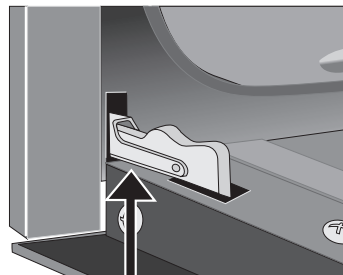
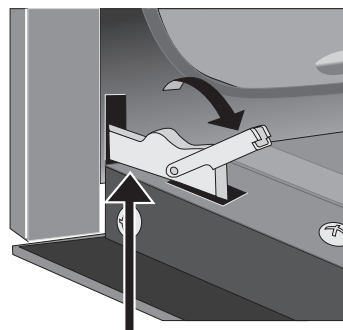

Figure 38: Door hinge locks
Figure 39: Hinge: unlocked position
2. Pull up the lock located on each hinge support toward front of the oven. You may have to apply a little upward pressure on the lock to pull it up (Figure 38 and Figure 39).
4. Push the door hinge locks up toward and into the oven frame on both left and right oven door hinges to the locked position (Figure 38).